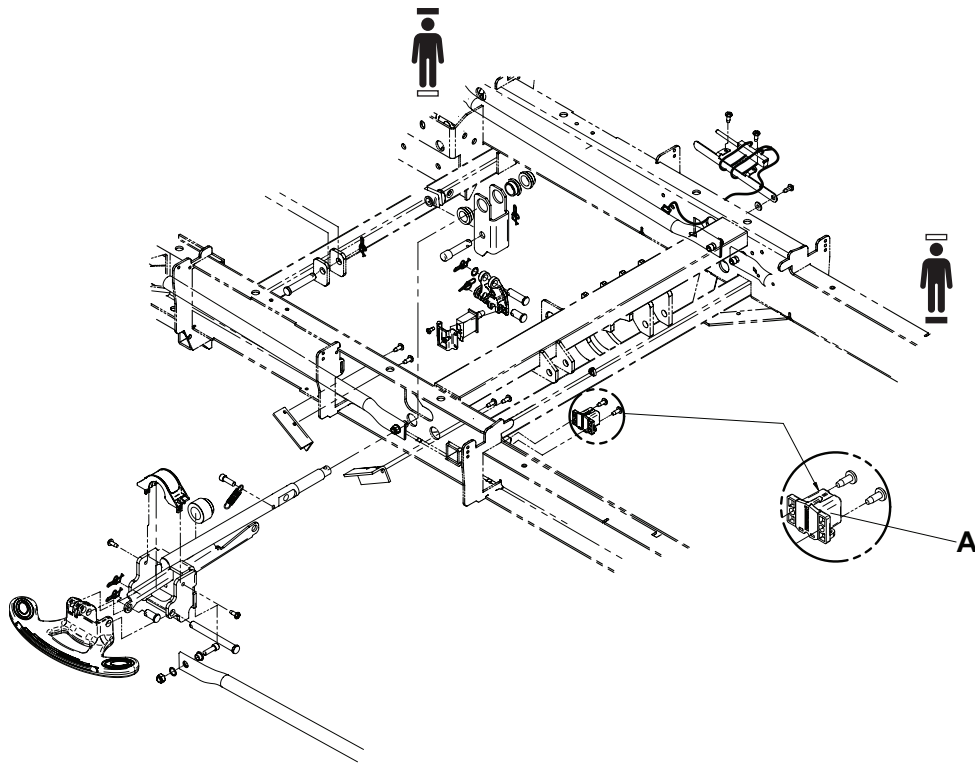

Figure 74 – Base angle sensor
5. Using a #2 Phillips short screwdriver, remove the two screws that secure the base angle sensor (A) to the base frame (Figure 74). Save the screws.